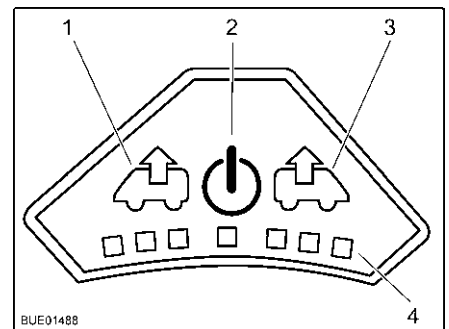

Fig. 95 Control panel for fan
- Press the On/Off button (Fig. 95,2). The fan runs in comfort mode (venting at slowest fan speed).
- To increase the fan speed: Press the Vent button (Fig. 95,1). The fan speed in the venting direction increases by one level. LEDs (Fig. 95,4) show the operating levels.
- To lower the fan speed: Press the Aerate button (Fig. 95,3). The fan speed decreases by one level.
- To increase the fan speed: Press the Aerate button (Fig. 95,3). The fan speed in the aerating direction increases by one step. LEDs (Fig. 95,4) show the operating levels.
- To lower the fan speed: Press the Vent button (Fig. 95,1). The fan speed decreases by one level.
- Press the On/Off button (Fig. 95,2). The fan stops, the LEDs go out.